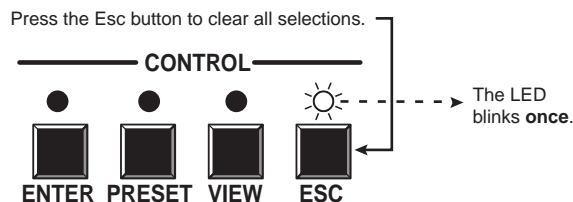

Figure 3-49 — Clear all selections
1. Press and release the Esc button (figure 3-49).